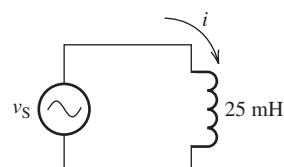

FIGURE P4.33 Inductor circuit.
- 4.33 (B)** Given the circuit in Figure P4.33, find the current, i , as a function of time. (Note: v_s is a sinusoid.)